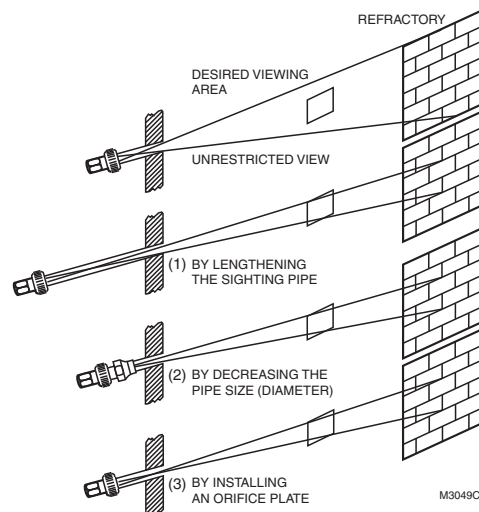

Fig. 2. Methods of reducing C7915A Detector field-of-view.
Fig. 2 shows three ways of reducing the field of view, assuming that the distance from the viewing opening to the flame or refractory cannot be changed. These are (1) lengthening the sight pipe, (2) reducing the diameter of the sight pipe, and (3) installing an orifice plate in front of the photocell. Combinations of these methods can be used.
- as reduced a field of view as possible, see Fig. 2 and 3.
The actual area of hot refractory sighted should be as small as possible and consistent with proper sighting of the flame. Refer to Fig. 2 and 3 for methods of reducing the area of hot refractory sighted.